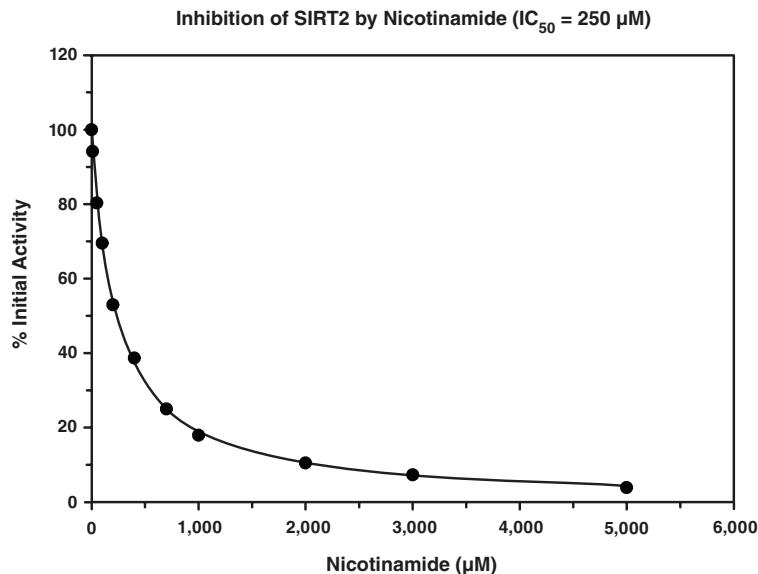

Figure 3. Inhibition of SIRT2 by Nicotinamide ($IC_{50} = 250 \mu M$)
- Either graph the Percent Inhibition or Percent Initial Activity as a function of the inhibitor concentration to determine the IC_{50} value (concentration at which there was 50% inhibition). An example of SIRT2 inhibition by nicotinamide, a sirtuin-specific inhibitor, is shown in Figure 3, on page 12.